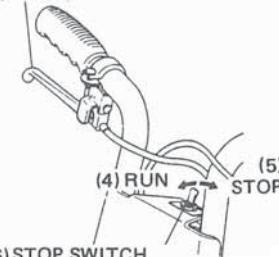

Fig. 16
- a. When starting engine, move stop switch to "START" position. If engine is cold, move choke lever to "CHOKE" position. (Fig. 16 & 17)
- a. To stop engine, release throttle lever and allow engine to return to idle, then move stop switch to the "STOP" position. (Fig. 16)